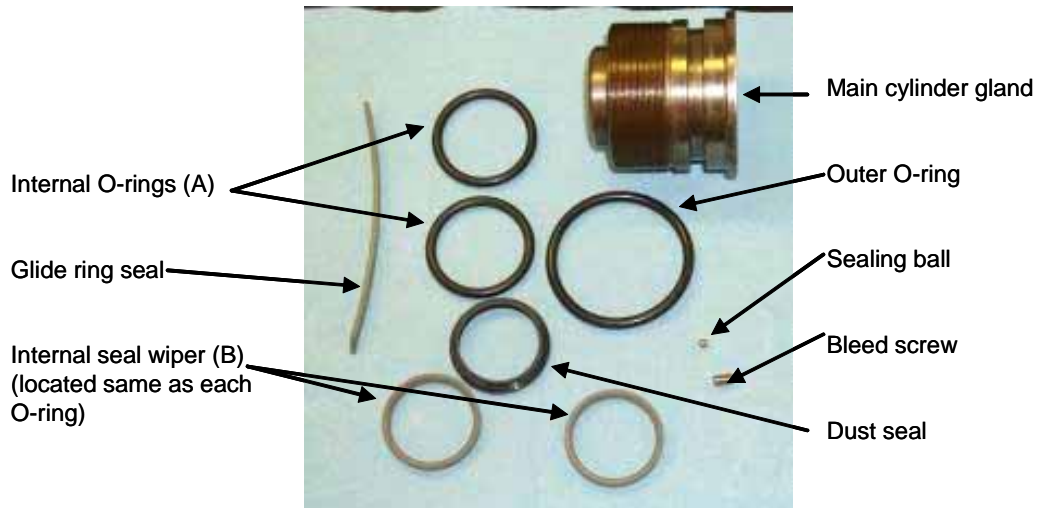
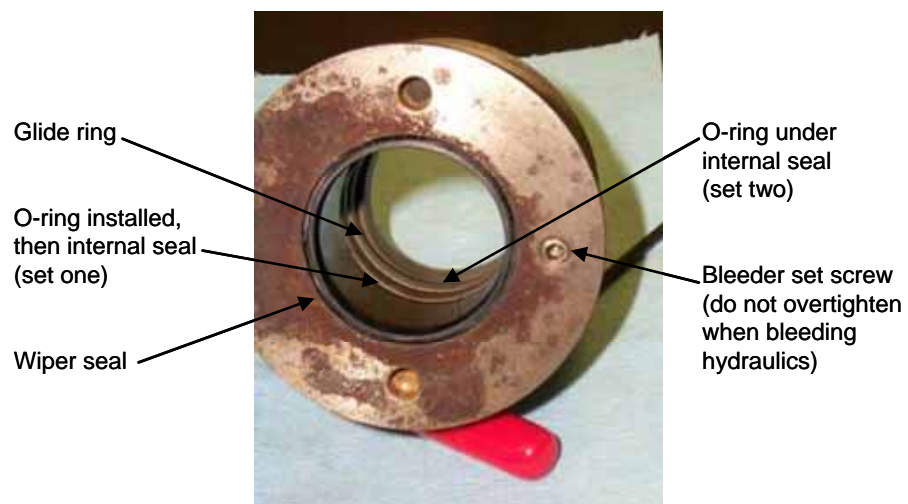

Figure 55. Main cylinder gland and components.
Figure 56. Assembled main cylinder gland.
Figure 55 shows the main cylinder gland and all necessary seals used in this component. Replacement of these seals is relatively simple. First, remove the old seals. Second, install the O-ring (A), then the internal seals (B) at the same location. Third, install the glide ring seal. (It may be necessary to form this seal first.) Fourth, put the outer O-ring into place. Fifth, install the dust seal. Finally, install the bleed screw and sealing ball (figure 56).